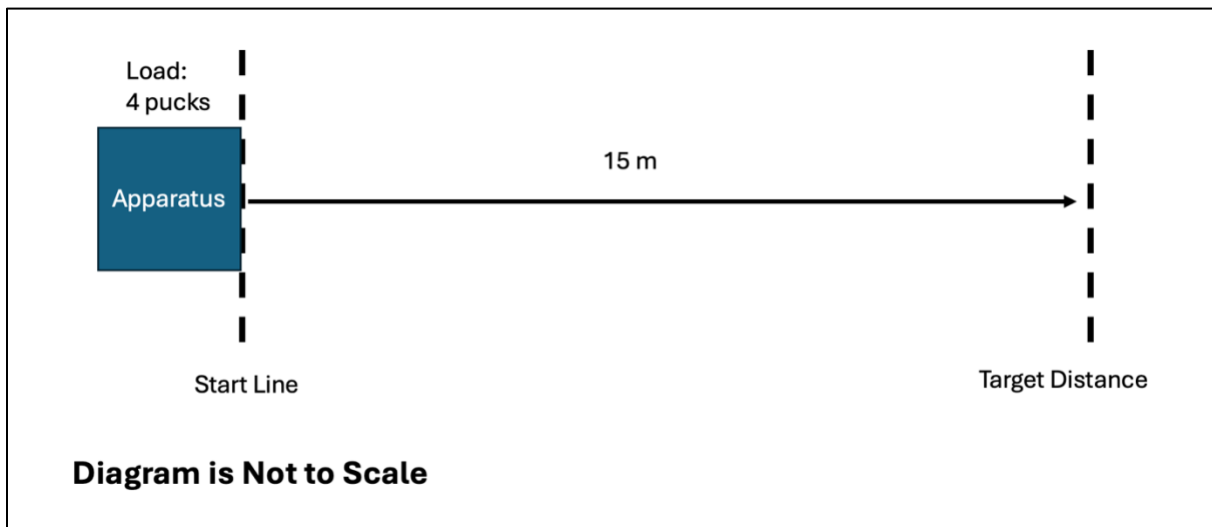

Figure 3: Diagram of Round 2: The Long Haul
Each team will have three (3) attempts to transport a cargo load of four (4) hockey pucks to a maximum distance of 15 m (see **Figure 3**). Each team will initially be given 5 minutes to set up their device for the round and 2 minutes in between the attempts, or they forfeit the run.